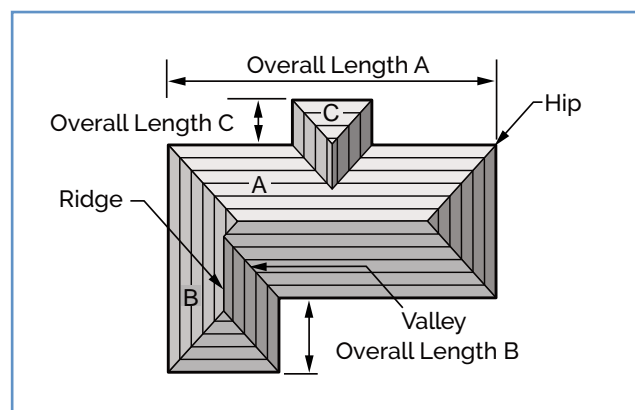

Figure 2.2.4
#### II. Hip and valley roofs: (Figure 2.2.4).
First take the section with longest rafters (Section (A) **Figure 2.2.4**). Treat this section of the roof initially as a straight gable. Calculate the number of tiles required for coverage using formula **1** and formula **2** (or use **Table 2.2.1** to calculate the number of tiles.)
Repeat the calculations for each section of the roof (Section (B)(C) **Figure 2.2.4**).